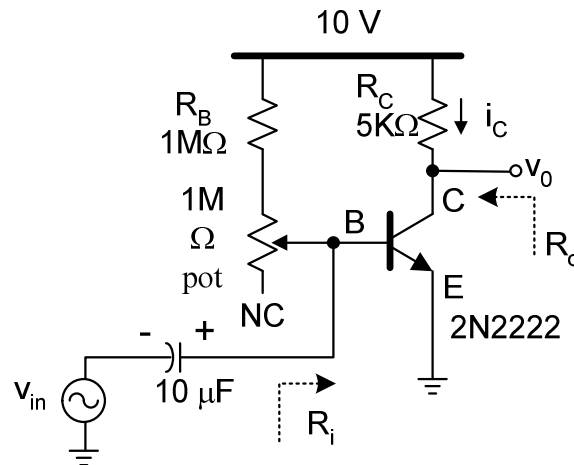

Fig. 2. BJT transistor circuit 1
1. Assume the transistor you will use has a β of 155 and $V_{BE(on)}=0.65$ V. For the circuit in Fig. 2, calculate the overall resistance (R_B and pot) such that $I_C=1$ mA.
5. Construct the circuit in Fig. 2 in Pspice and find the small signal parameters g_m and r_{ce} . Compare SPICE results and hand calculations. Explain the differences, if any.
2. Connect the circuit in Fig. 2. The power supply is 10V.